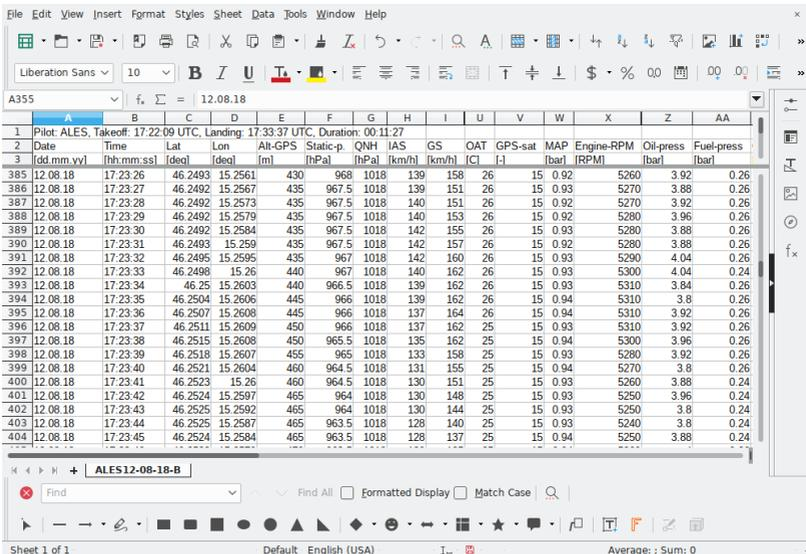

Figure 2.60: An example of flight details upon successful import.
6. The result of the import is then shown in Figure 2.60. Some column widths were adjusted and some cells were hidden.